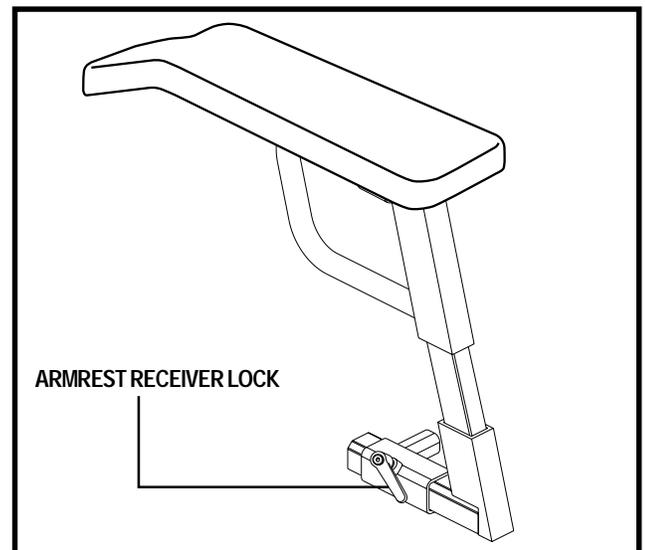

Figure 15. Armrest Position Adjustment
1. Turn the armrest receiver lock counterclockwise to loosen. See figure 15.